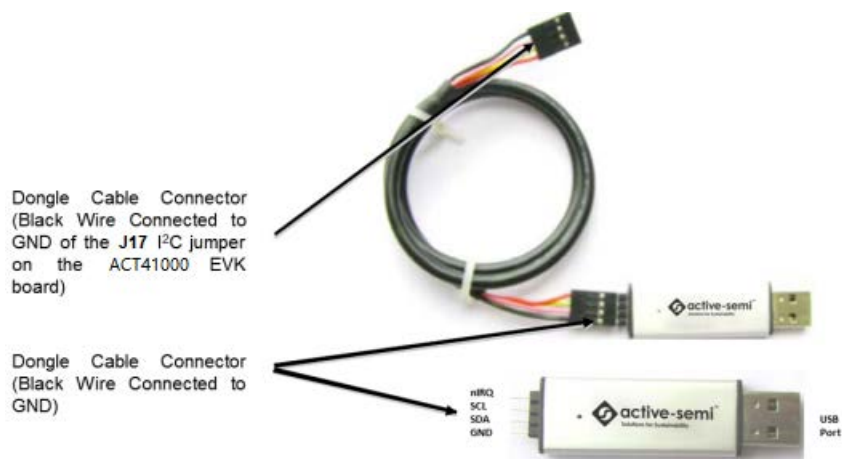

Figure 3. USB-TO-I2C Dongle Connection
3. Connect the USB-TO-I2C dongle to the EVK J17 connector. Refer to Figure 3 to ensure the correct polarity of the connection. As a guide, use the “Active-Semi” (or Qorvo) logo on the top of the dongle so the black wire is connected to the Dongle GND pin.